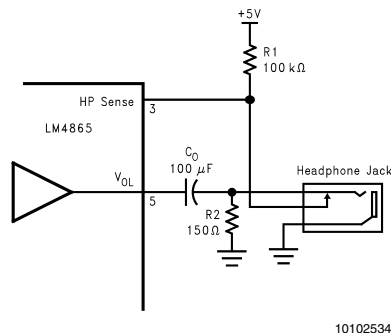

FIGURE 3. Headphone Circuit
*Figure 3* shows the implementation of the LM4865's headphone control function. With no headphones connected to the headphone jack, the R1-R2 voltage divider sets the